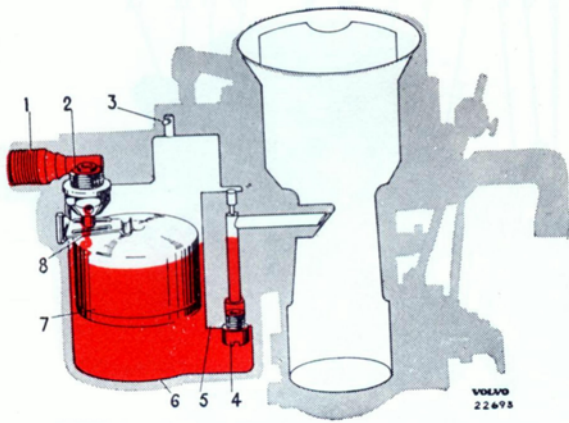

Fig. 10. Float system.
The float is used to maintain the fuel level at the correct height. When the fuel reaches this height the float (7, Fig. 10) moves upwards and presses the needle in the valve (2) against the seat through the medium of the float arm whereby the supply of fuel is cut off. When the float starts to sink, the same procedure is repeated but in the opposite direction. The float bowl is ventilated by means of a hole (3). Early production floats are made of brass and have a separate arm. Late production units have nylon floats with a fixed arm.